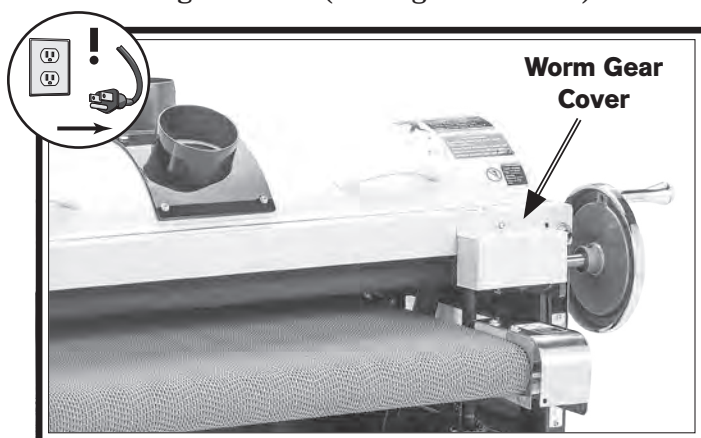

Figure 33. Location of worm gear cover.
2. Remove (2) Phillips head screws securing worm gear cover (see Figures 33–34).